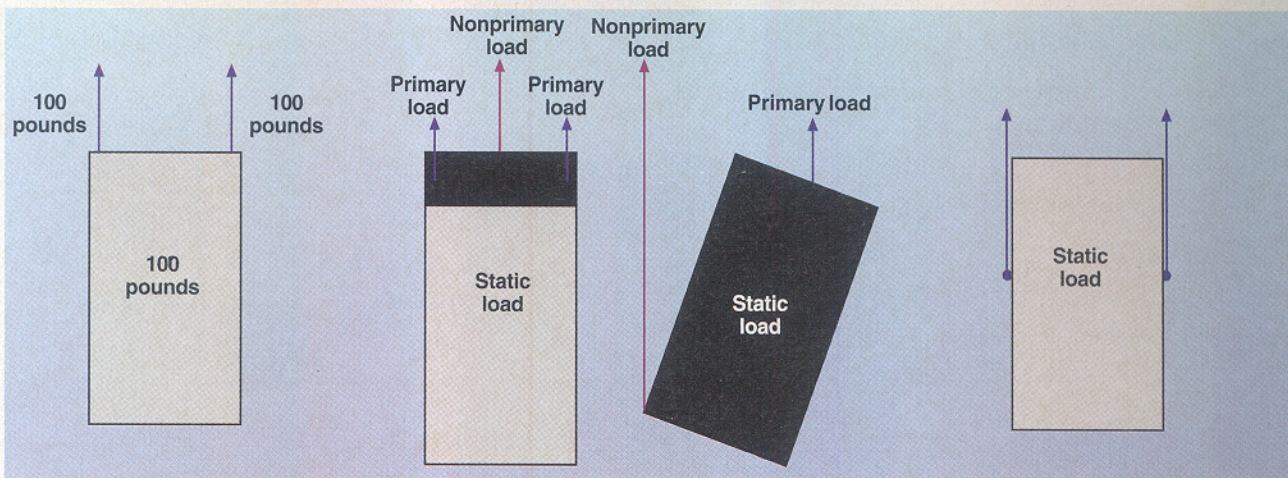

Figure 1. With redundant points, one suspension point will maintain the load at a 5:1 design factor if the other suspension point fails.
- *Redundant points:* If the possibility exists, always use redundant suspension points at the loudspeaker enclosure and at the structure attachment. (See Figure 1.) Redundant points allow one of the loudspeaker enclosure attachments or one of the structure attachments to fail while the other point remains, continuing to suspend the loudspeaker enclosure and associated hardware with the industry standard 5:1 design factor. The redundant-points design maintains the design factor; it is not to hold the loudspeaker enclosure in proper placement should one point fail. When designing with redundancy, you need not consider proper spatial alignment for each point; it is only necessary for the sum of the suspension points to provide the desired placement.